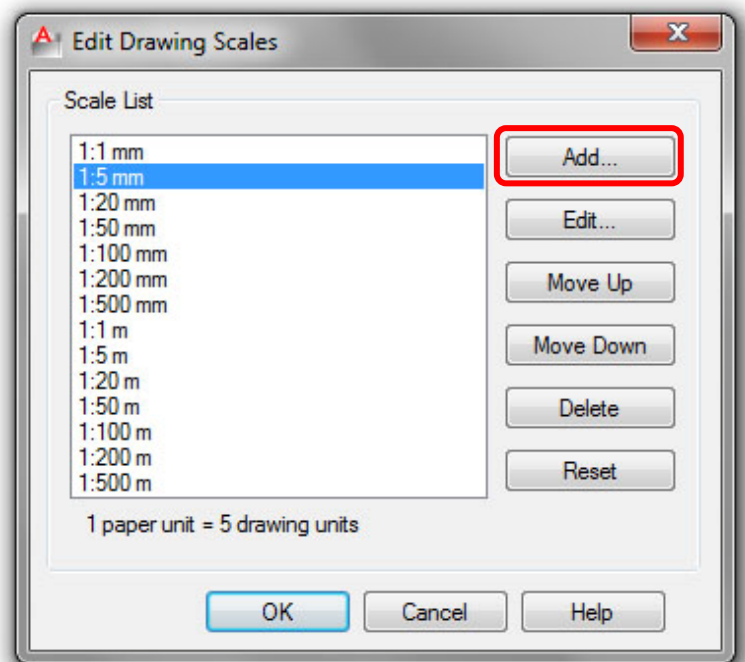

Figure 5
- Go to Task Bar → *Annotation Scale* → *Custom* → *Add* (Figure 5)